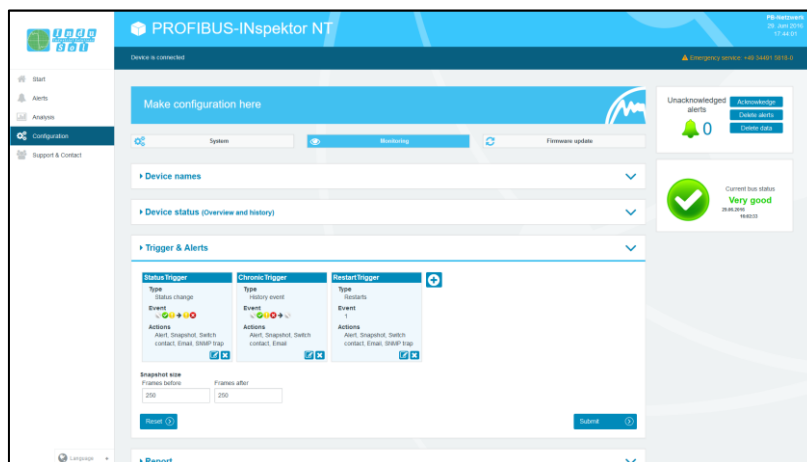

Figure 33: Triggers & alarms – default setting
The menu presented in Figure 33 is available for specifying the trigger type.
The settings for the content of the 'diagnostics snapshot' are configured in this sub-menu (see item 4.2 Alarms). In the default setting, all diagnostics telegrams of all devices are saved in the 'diagnostics snapshot' for later evaluation. The function can be global or specified for individual devices by adding address-related entries (see Figure 33: the diagnostics for address 7 have been deselected).